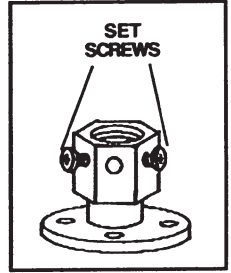

FIG. 6
**Step 2.** Loosen the two set screws in the top coupling of the motor assembly. (Fig. 6)